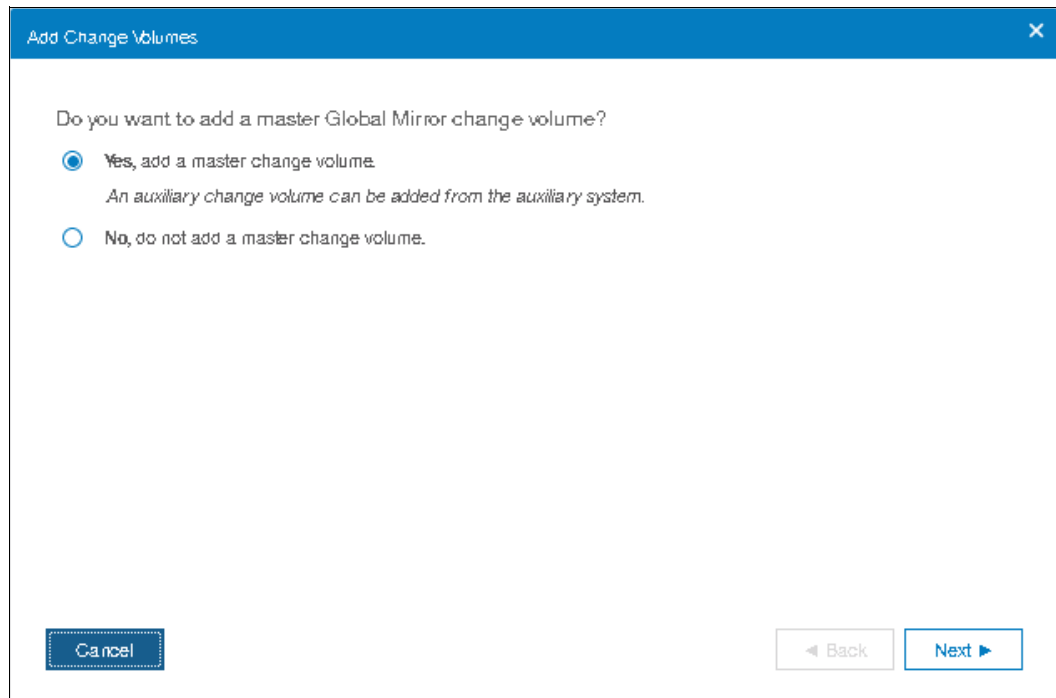

Figure 10-105 Add Change Volume
8. Since **Add Consistency Protection** was checked as shown in 5 on page 564, you will get a dialog window asking whether you want to add change volume as shown in Figure 10-105.